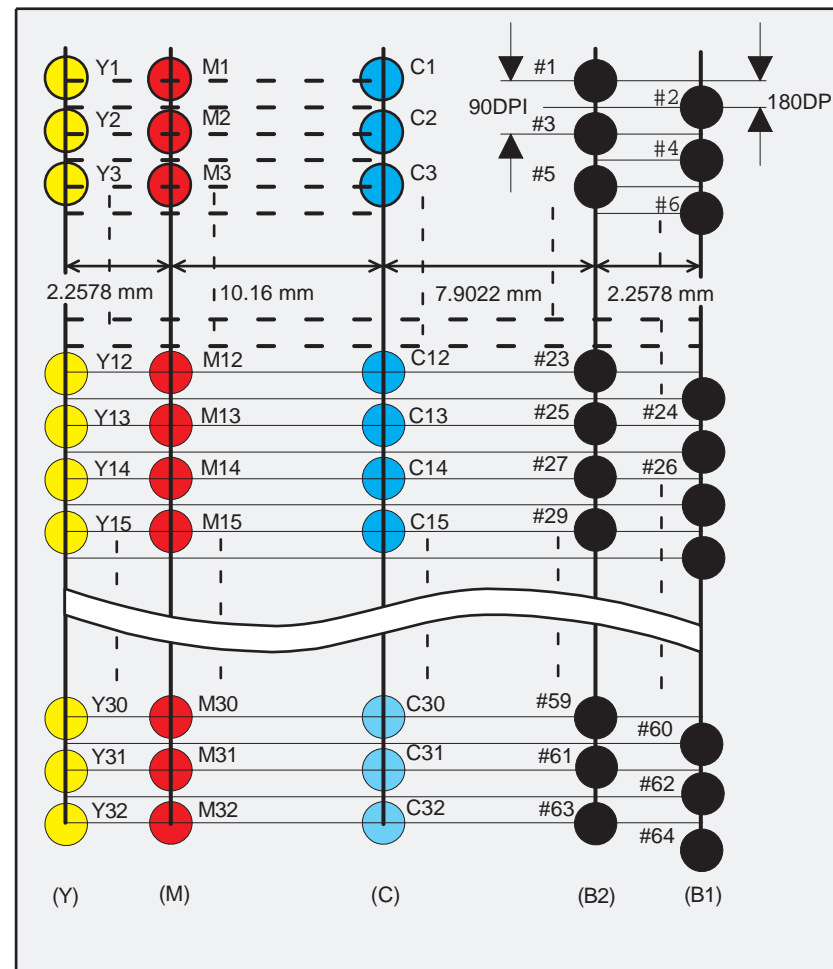

Figure 1-2. Nozzle Configuration for the Stylus COLOR 640
- Stylus COLOR 640 (see Figure 1-2):